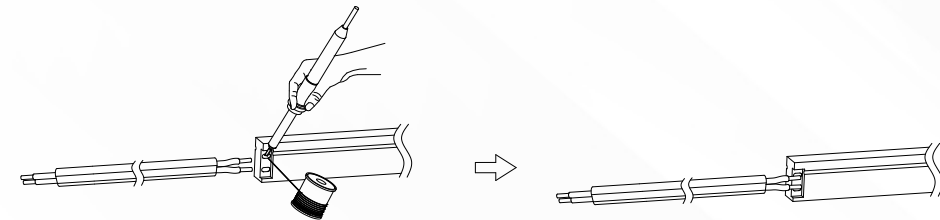

Figure 4
4. Use the soldering iron to solder the wire, as shown in Figure 4.